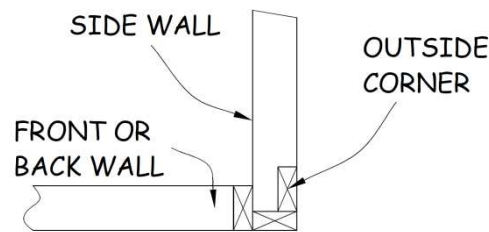

Figure 23-3. Outside L-Corner.
10. At each end of the side walls, lay out an L-corner with two 2x4 studs made up of the normal 2x4 end stud plus an extra 2x4 stud perpendicular to the end stud on the exterior side of the wall (see Figure 23-3). Mark the "L" as "Corner Up" to specify that the corner assembly will lay face up on the deck as the wall is being built. This will place the existing 2x4 stud facing the end of the adjoining short wall forming an outside corner.